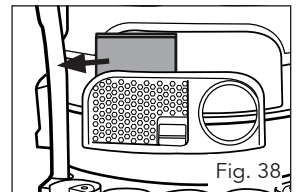

Fig. 38
2. Remove the filter (Fig. 38).